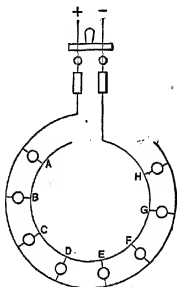

FIG. 74.
**Prob. 22-3.** Each lamp in Fig. 74 takes 1.5 amperes. Voltage